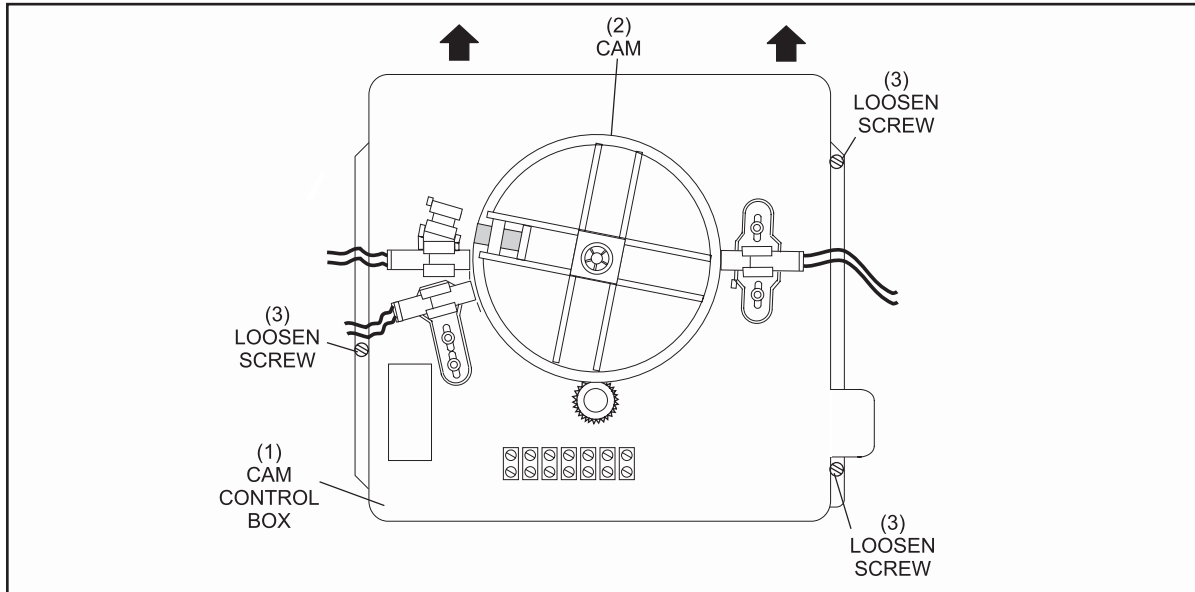

Figure 4-3. Cam Mounting Screws
5. Loosen the (3) screws for the Cam Control Box. Refer to *Figure 4-3*.